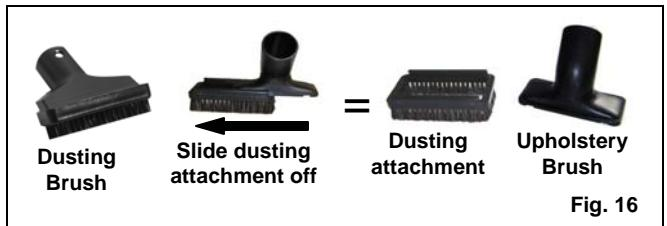

Fig. 15
2. Attach the crevice tool to the end of the hose handle. (Fig. 15)